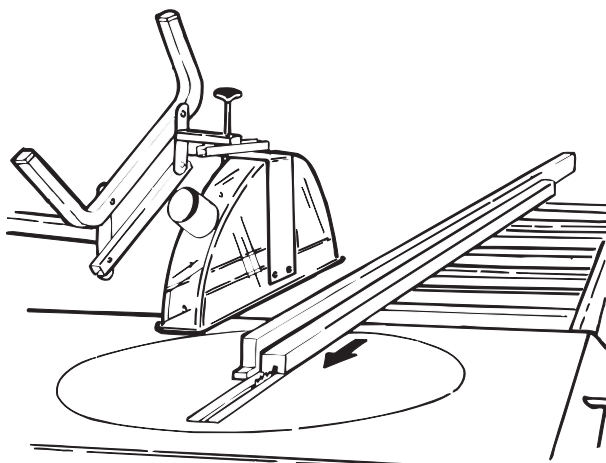

Fig. 21
- Adjust fence and repeat rip until groove attains desired width Fig. 21 and 22.